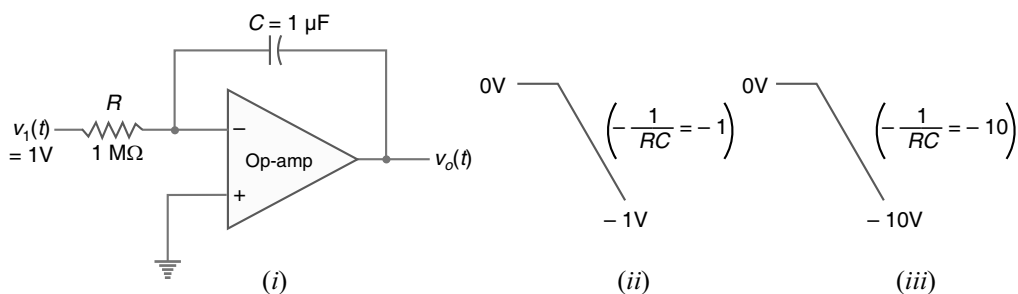

Fig. 23.82
**Output voltage.** If a fixed voltage is applied to the input of an integrator, eq. (iv) shows that the output voltage grows over a period of time, providing a ramp voltage. Eq. (iv) also shows that the output voltage ramp (for a fixed input voltage) is opposite in polarity to the input voltage and is multiplied by the factor  $1/RC$ . As an example, consider an input voltage  $v_i = 1\text{V}$  to the integrator circuit of Fig. 23.82 (i). The scale factor of  $1/RC$  is
so that the output is a negative ramp voltage as shown in Fig. 23.82 (ii).
and output is then a steeper ramp voltage as shown in Fig. 23.82 (iii).